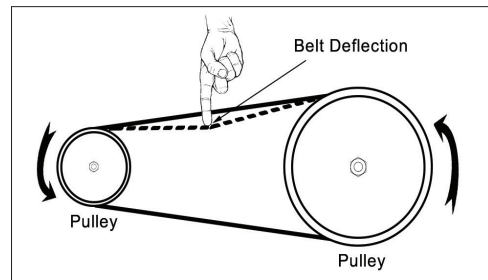

FIG. 4
8. Slide the sanding belt frame assembly to tighten the belt, so there is between 1/4" and 1/2" of deflection, as shown in FIG. 4.